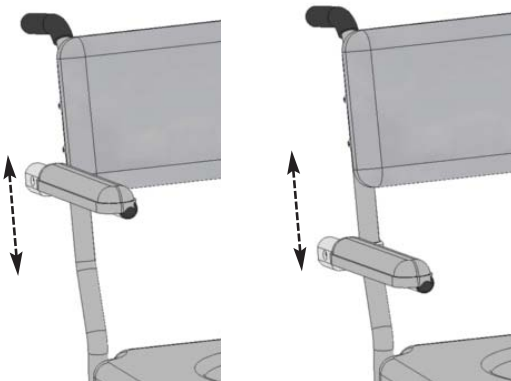
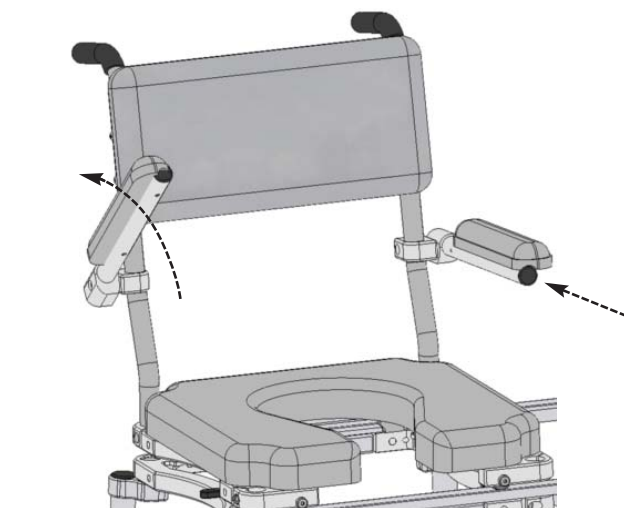

Figure 12
Figure 13
**D Cantilever Arms:** The cantilever arms can be adjusted to the desired height by completing the following steps: Loosen the socket head cap screws on the arm clamps, raise/lower the arms accordingly, then re-tighten the socket head cap screws (Refer to Figure 12). For safety purposes, the cantilever arms lock in the down position. To switch the arms to the up position, simply push the arms toward the back of the chair (releasing the locking mechanism) and lift up (Refer to Figure 13).